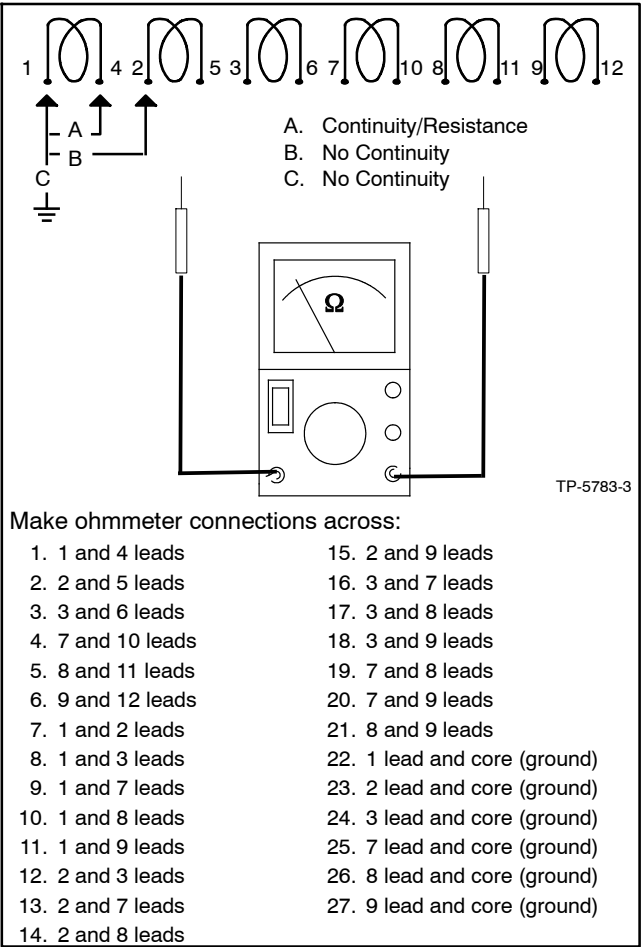

Figure 11-14 Stator Winding Continuity Test
5. With ohmmeter, check **each pair** of leads for low resistance readings (continuity). High resistance across A or low resistance (continuity) across B and the stator core (ground) indicates a faulty stator; replace stator. See Figure 11-14 and Figure 11-15. See Section 1.8, Specifications, Electrical Values for stator assembly resistance values.